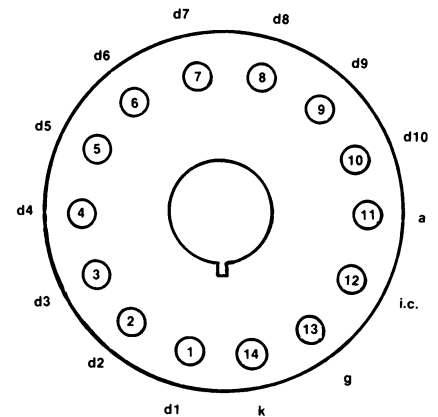

Fig. 1. JEDEC B14-38 PMT Pin Base, with Pin Assignments:
The Model 276 is also compatible with other 10-stage tubes not listed in Table 1 (see Fig. 1). Compatibility may be determined by comparison with those listed.
**PM SOCKET** TRW 3B14. Fits JEDEC B14-38 PMT pin base (see Fig. 1).